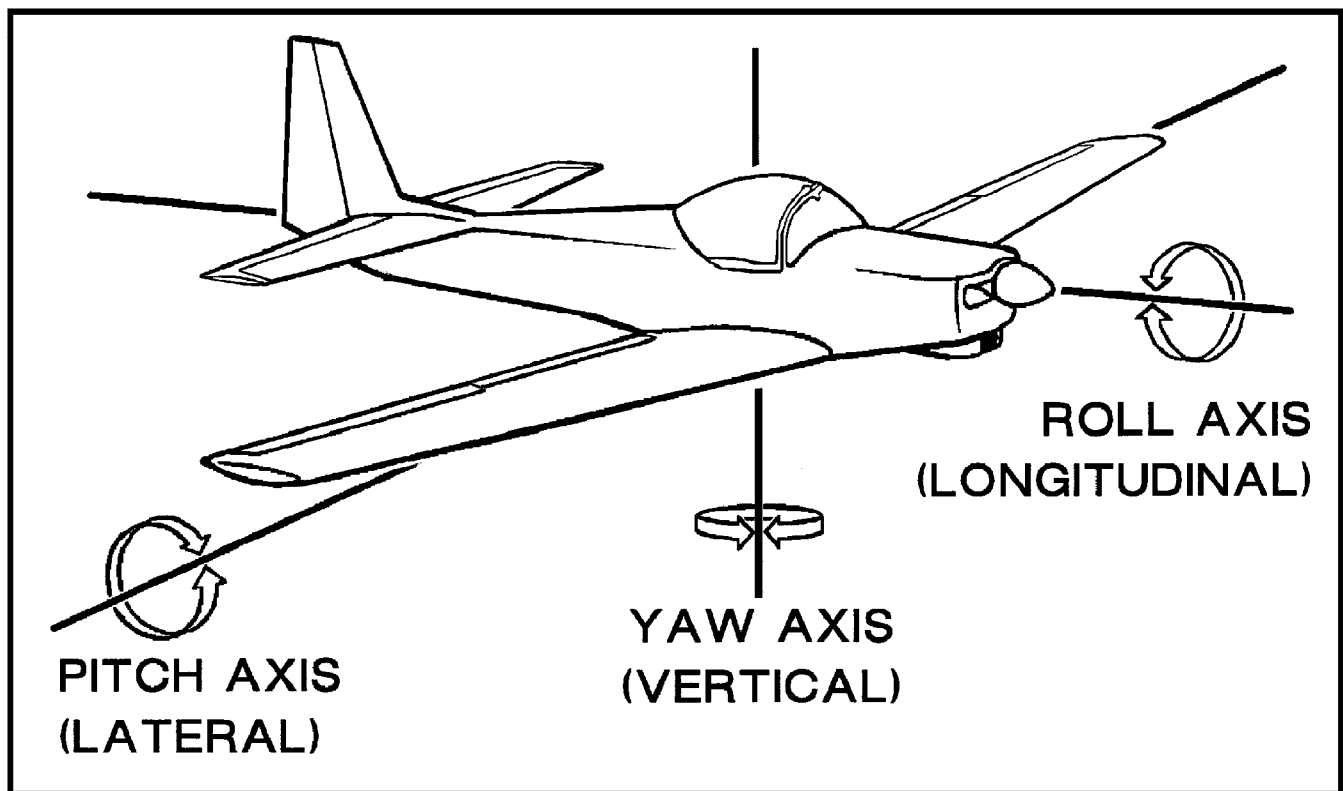

Figure 2.1. Axes of the Aircraft.
**2.1. Effects of the Controls.** Each flight control affects the movement of the aircraft by controlling the movement about one of its three axes (figure 2.1). The lateral axis is an imaginary line which runs from wingtip to wingtip through the center of gravity perpendicular to the fuselage center line. The vertical axis is an imaginary line which runs through the center of gravity perpendicular to both the lateral axis and the fuselage center line. The longitudinal axis is an imaginary line which runs through the center of gravity parallel to the